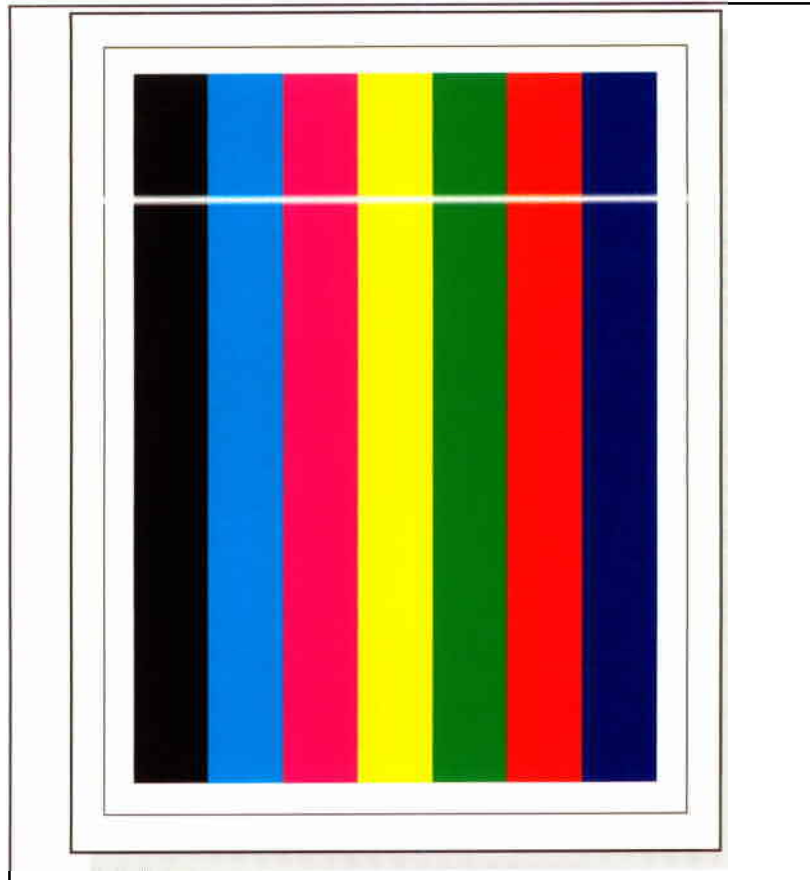

Figure 7-21 Horizontal Lines in All Colors
- Poorly defined (fuzzy) horizontal lines in all colors result from toner dust on the Laser/Scanner window (see Figure 7-21). Clean the Laser/Scanner window as shown in Chapter 3.